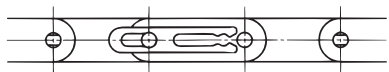

Figure 18: Slide Spring Clip Over Grooves in Pin Ends
- 1) Spring clips are used to secure the connecting link of chain sizes smaller than RF2060 and RS60. Insert the pins of the connecting link into the bushes of the free inner links, place the link plate over the pin ends, and slide the spring clip over the ends of the pins so that the slot and the fingers of the clip engage the grooves securely (Figures 18 and 19).